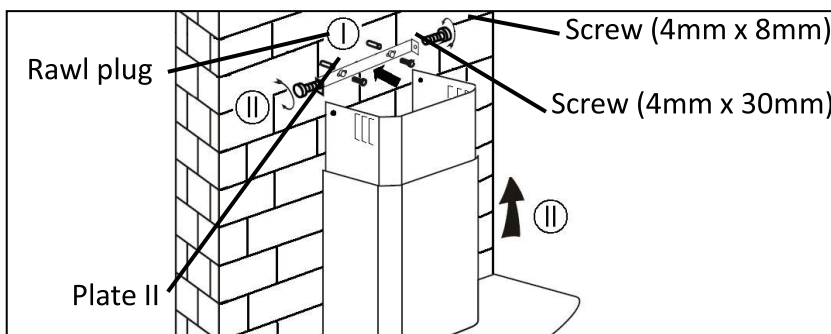

Fig.9
- Drill 2x8mm holes to accommodate the plate II. Screw and tighten the plate II onto the wall with 2 screws provided. Assembly the chimney onto the unit and fix it with 2 screws. (Fig.9)